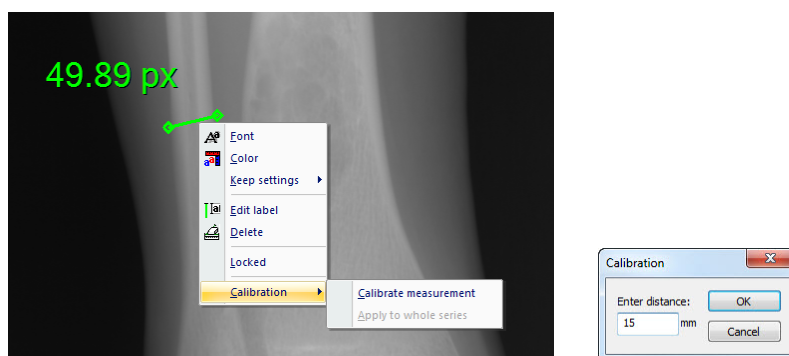

Figure 199 – Calibration context menu and the Calibration dialog
To activate calibration, select the **Calibration** item (see Figure 199) in the **Annotations** context menu, which is displayed by pressing the mouse context button on the Distance measurement.
- **Calibrate measurement** - to open the **Calibration** dialog in order to define the calibration (see Figure 199).